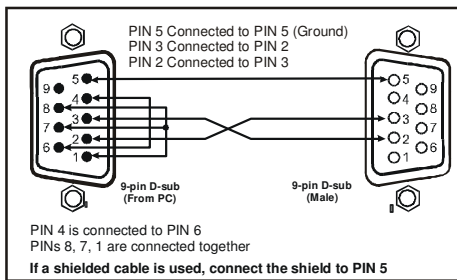

Figure 3: Connecting a PC without using a Null-modem Adapter
- Connect the RS-232 9-pin D-sub port on your PC to the RS-232 9-pin D-sub rear panel port on the **VP-437**, as Figure 3 illustrates